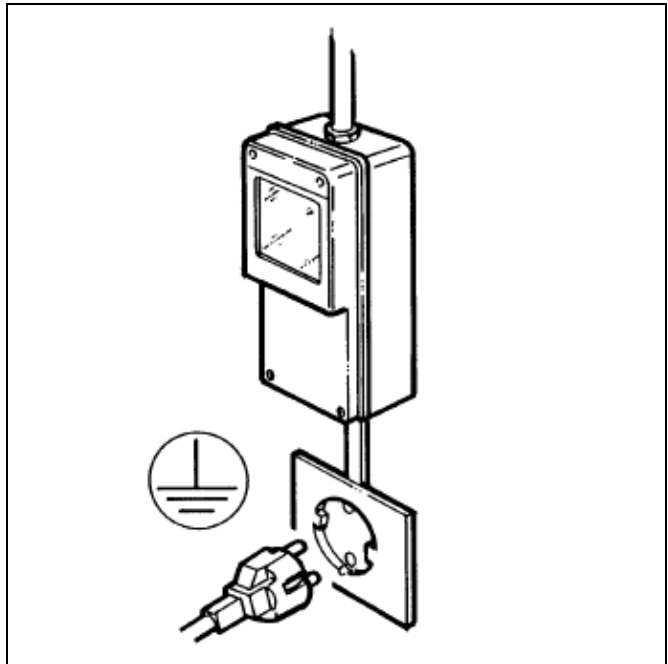

Fig. 28
- Make sure the connection is made to a system with an effective earth as required by current safety standards (fig. 28). The manufacturer cannot be held responsible for any damage caused by failure to earth the system.
- It is essential, for proper and safe installation, to provide a socket controlled by a circuit breaker with contact opening distance equal to or greater than 3 mm, in accordance with applicable national safety regulations (fig. 28).